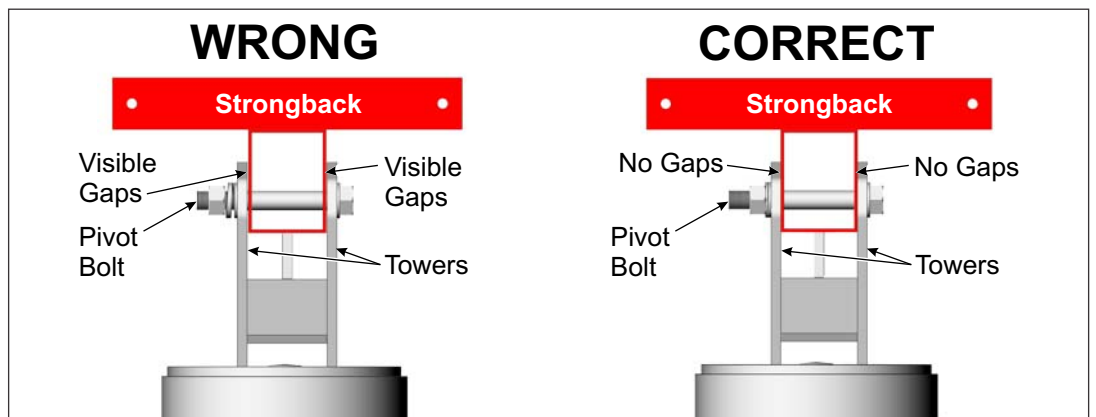

Figure 2-4: Tighten and Torque the Pivot Bolt
- G. Tighten the Pivot Bolt. The Pivot Bolt cannot be left loose - the Mounting Sleeve Vertical Towers must be firmly clamped to the sides of the Strongback eliminating any gaps between the Vertical Towers and the Strongback. **Torque to 200-250 ft.-lbs.** (See Figure 2-4)